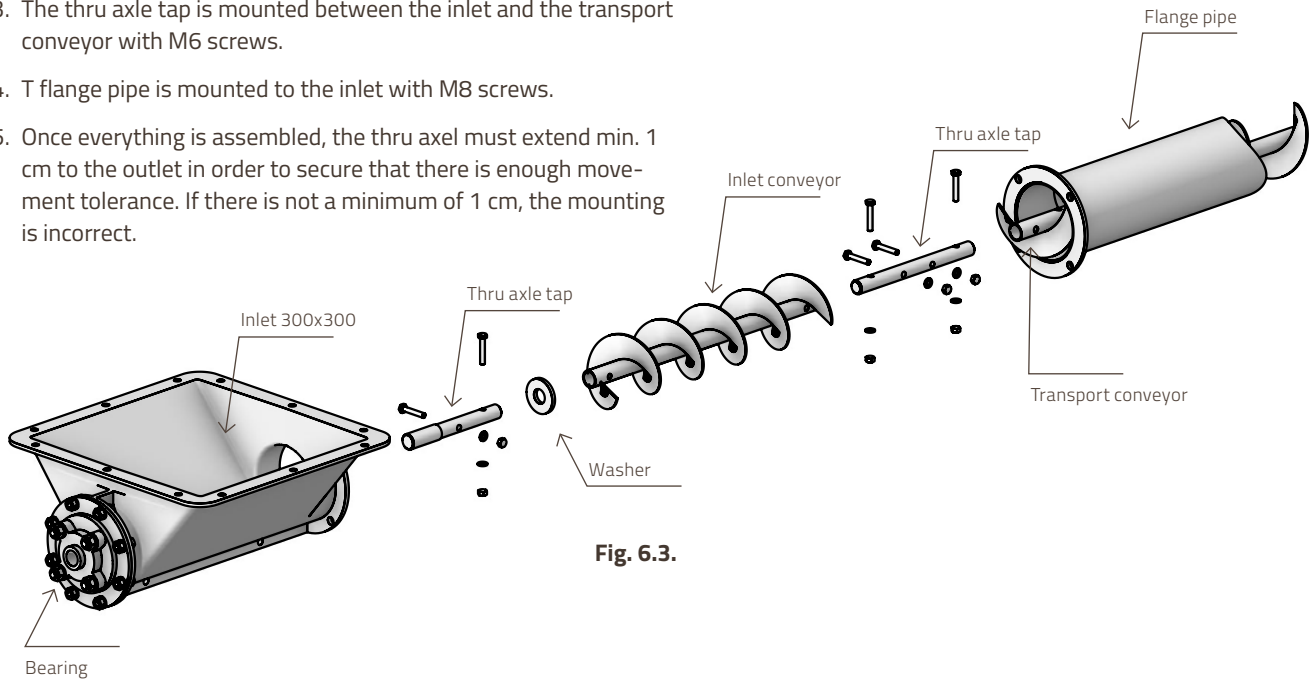

Fig. 6.3.
6.3. Mounting of the bottom inlet – See fig. 6.3.